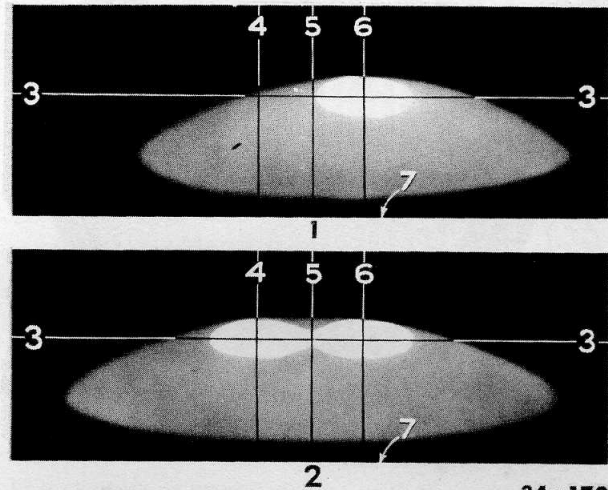

Fig. 30—Pattern of Properly Aimed Headlights
A horizontal line (3, Fig. 30) should be drawn on the surface of the wall or screen at a height 3 inches below the headlight centers. Locate center point (5) on this line in this manner. Sight through the center of the rear window of the vehicle, in line with the top center of the hood and the windshield center strip. Using this as a center point, draw two vertical lines (4 and 6, Fig. 30) at equal distances from the center point. The distance between these lines should equal the distance be-
The intersections of the horizontal line and the two vertical lines (Fig. 30) are directly ahead of the light filaments and should mark the center of the bright spot of each light. Cover one headlight and adjust the other headlight. Then, cover the properly adjusted light and adjust the one which was covered. Adjustment should be made with high beam turned on. The city beam, or passing beam of light, will be in the proper position. The city beam must not be used when aiming headlight beams.